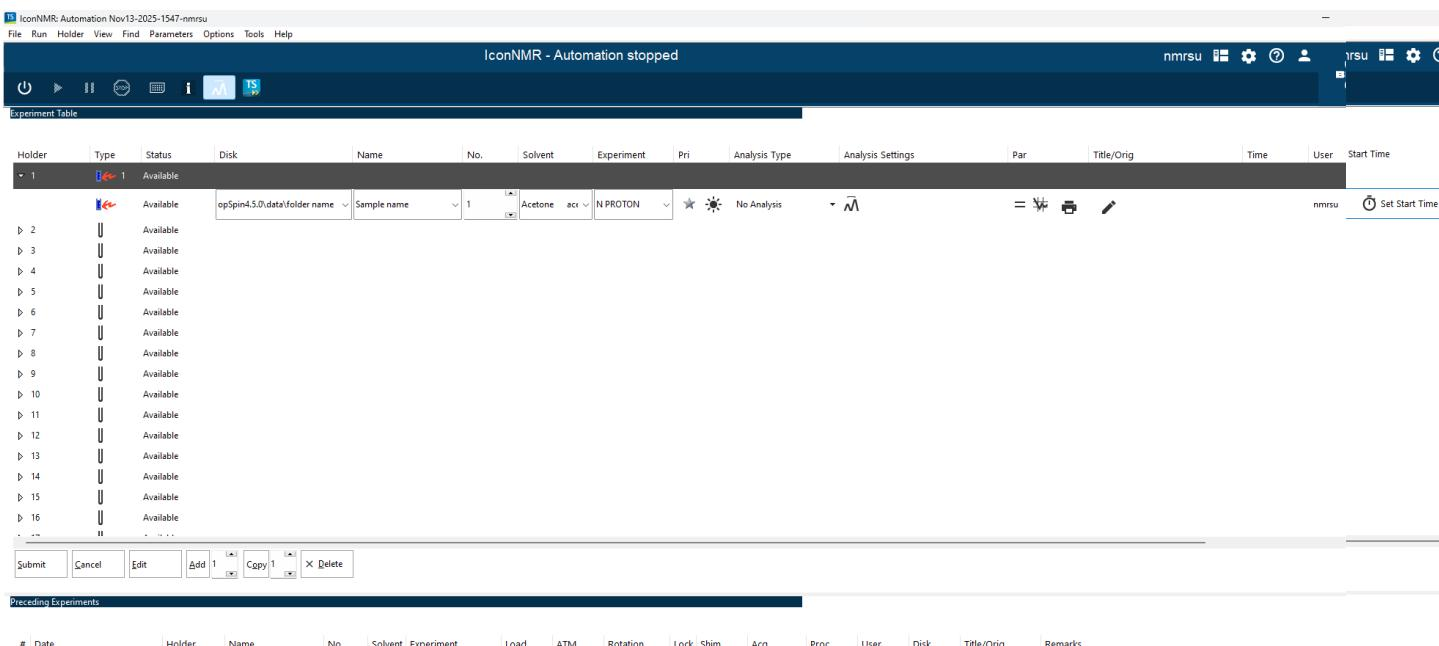

Fig 2: Icon NMR Automation window
10. Select the user ID on Icon NMR: Identify user and enter password. The “Icon NMR Automation” window will appear (Fig. 2). The students will use their research group faculty’s/PI’s ID.